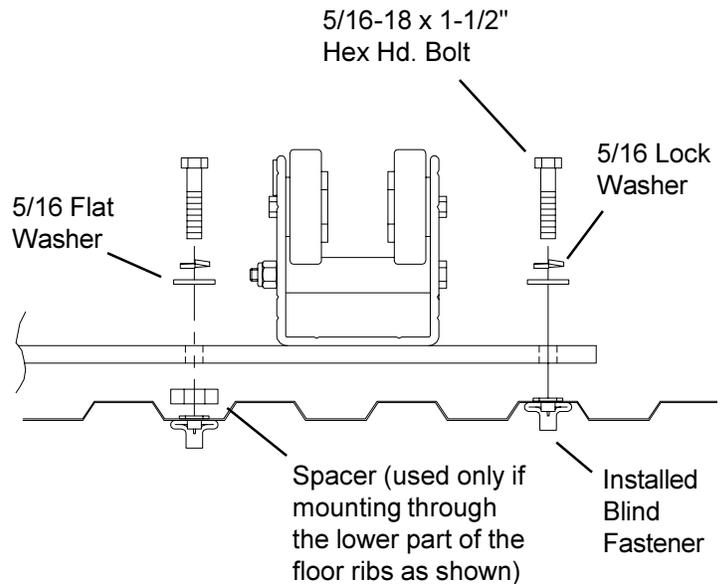

Figure 4. Fastening
4. Install Blind Fastener in the floor holes. See the Blind Fastener installation instructions on the back page. Replace the Base Assembly in the vehicle and fasten it to the floor (see Figure 4.).